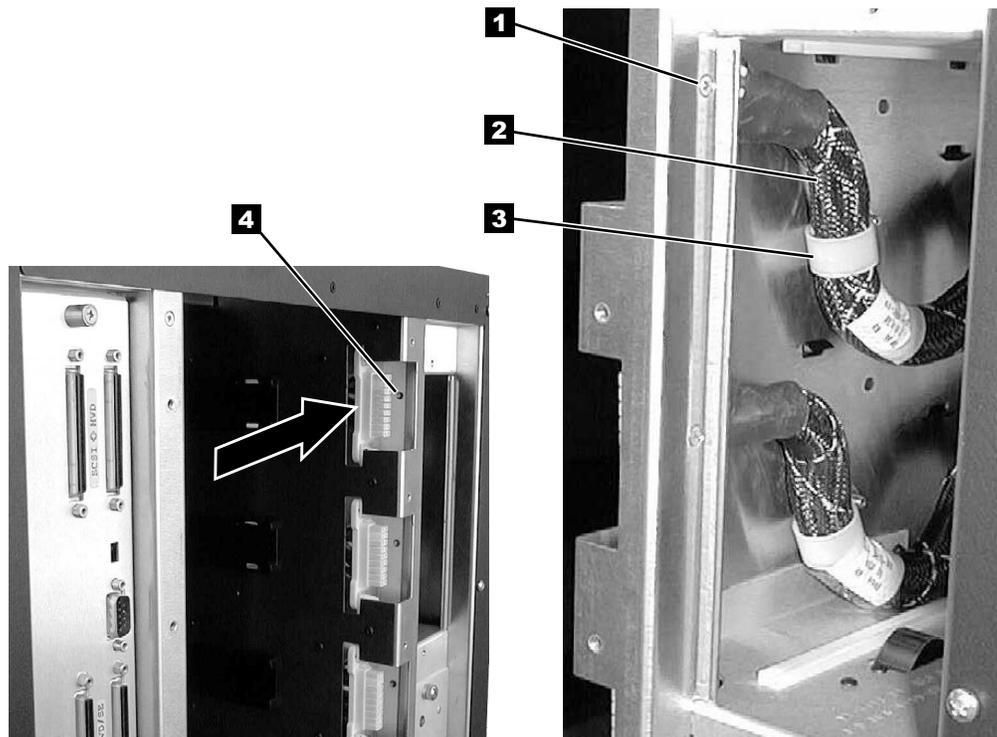

Figure 7-22. Power Distribution to Drive Sled Cable Removal and Replacement
See Figure 7-22 for locations of components in the following procedure.
6. See Figure 7-22 for step 6 through step 9. Disconnect the failing cable **2** from the Power Distribution Board.